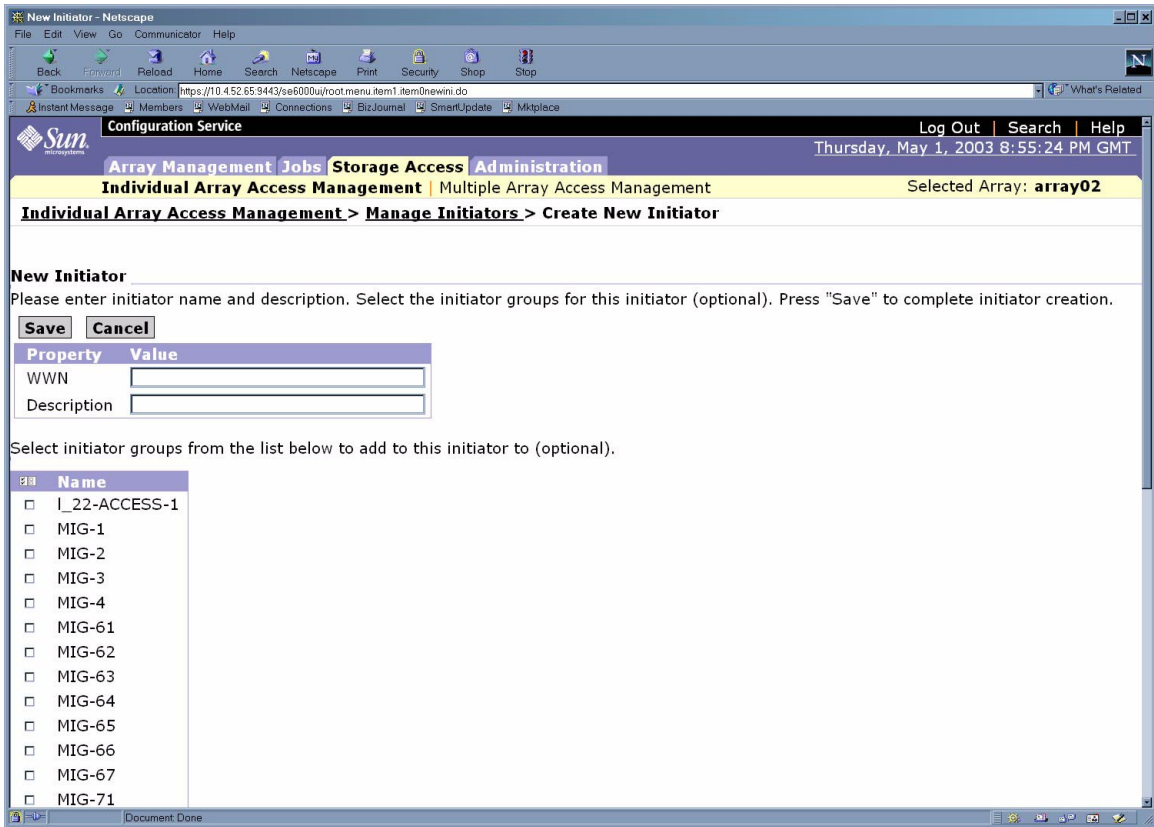

FIGURE 6-33 Manage Initiators—Create New Initiator
8. Click on Create and the Create New Initiator page is displayed as shown in FIGURE 6-33.